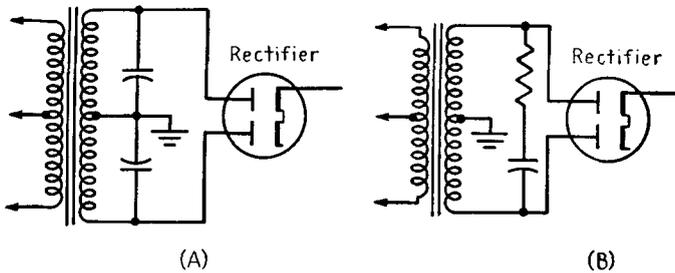

FIG. 21-16. Variations in the buffer-condenser circuit.
**Variations in the buffer condenser circuit.** The buffer condenser is sometimes connected in circuits like those shown in Fig. 21-16. The function of the buffer circuits shown is the same as the single condenser connected directly across the high-voltage winding. The common trouble is also the same; that is, the condenser is likely to become shorted. The effect on the receiver, however, may be different. If either condenser in Fig. 21-16A should become shorted, there would be a heavy load on the transformer and vibrator, but there may be some *B* plus voltage from the half of the transformer connected across the good condenser. If the buffer condenser of Fig. 21-16B should become shorted, *B* plus would not be shorted out. The voltage would be lower, however, depending on the size of the series resistor and the decreased efficiency of the vibrator
A shorted buffer condenser in either of the two examples of Fig. 21-16 would be found in a routine voltage and resistance check of the power supply. They would both give incorrect readings for *B* plus voltage, and AC plate voltage. A resistance check would readily show the short in the circuit of Fig. 21-16A, and the hash level would focus attention on the buffer condenser of Fig. 21-16B.